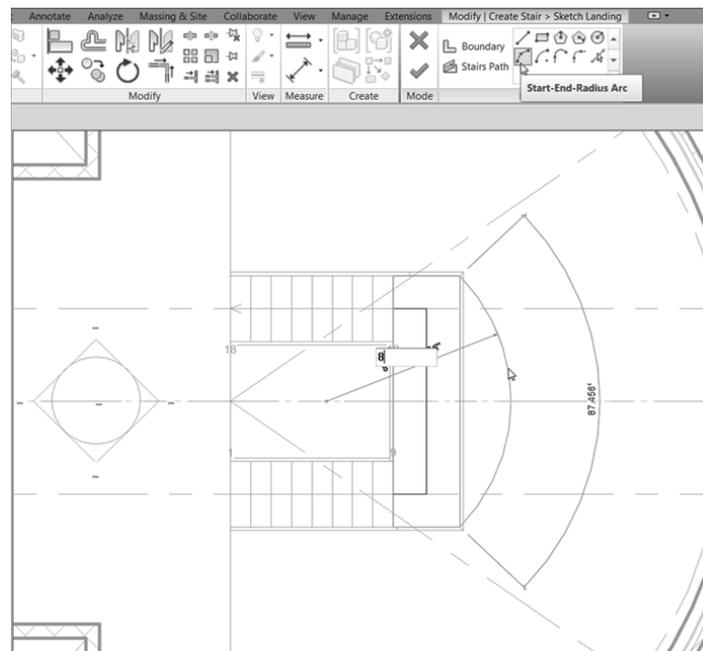

FIGURE 10.7: Add a radius to the outside of the landing.
5. On the Draw panel, click the Start-End-Radius Arc button, as shown in Figure 10.7.
6. Draw an arc on the outside of the landing at an 8'-0" (2400 mm) radius (see Figure 10.7).